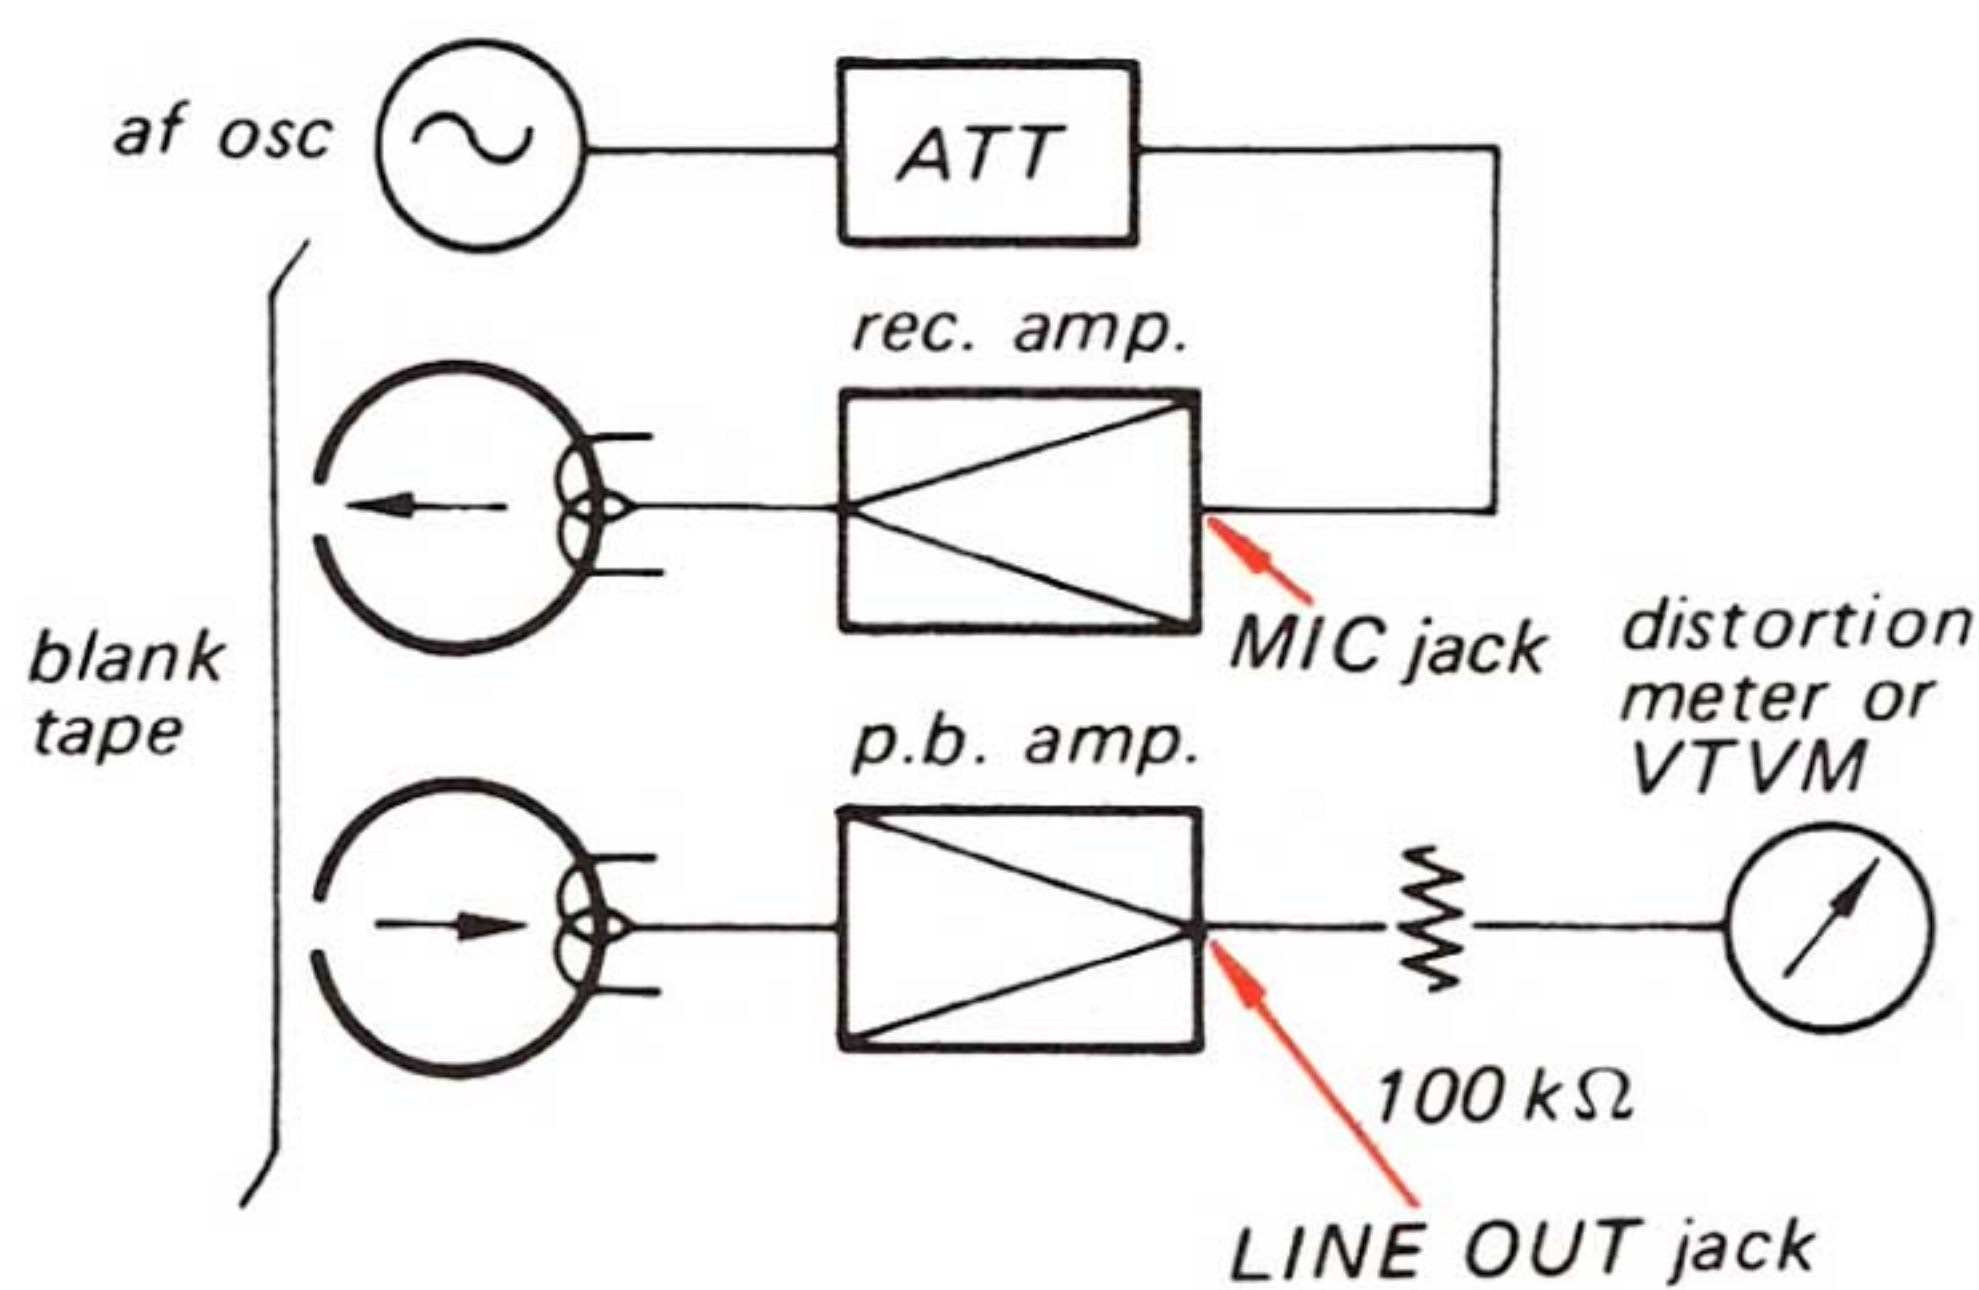

Fig. 3-2-13. Test setup for the items 11, 12, 13, 14 and 15
Step 2. Thread a blank tape and place the set in RECORD mode, deliver a 1 kHz signal of -60 dB (0.775 mV) to the MIC jack and adjust the R120 (R220) to obtain 0 dB (0.775 V) on the VTVM. (See Fig. 3-2-13 and 3-2-14.)
Step 2. Thread a blank tape, place the set in RECORD mode, deliver a 1 kHz signal of -90 dB (0.0245 mV) to the MIC jack and memorize the VTVM reading. (See Fig. 3-2-13.)
Step 2. Thread the SONY tape "super 150" (SONY SLH tape), place the set in RECORD mode, deliver a 1 kHz signal of -90 dB (0.0245 mV) to the MIC jack and memorize the VTVM reading. (See Fig. 3-2-13.)
- Step 2. Place the set in RECORD mode, deliver a 1 kHz signal of -60 dB (0.775 mV) to the MIC jack and record the signal on a blank tape "SONY super 150" (completely erased). (See Fig. 3-2-13.)